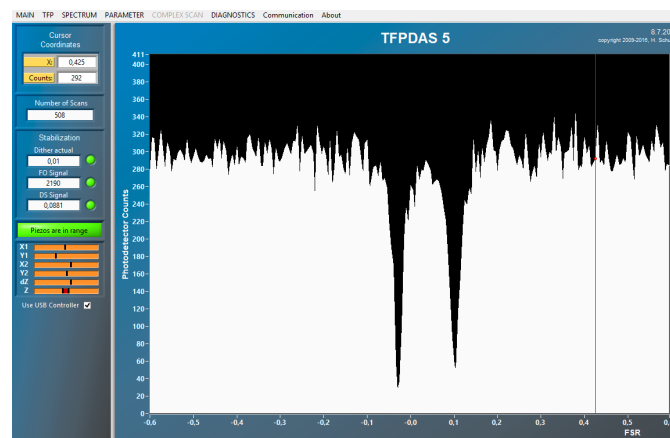

Figure 6: Exemplary signal obtained in *reflection mode*. The two dips originate from the two etalons of the *TFP-interferometer*.
- [20] As described in [19], by using the arrow keys on the keyboard, rescale the y-axis of the spectrum again to a maximum value of  $\approx 400$  counts. Subsequently, carefully unblock the laser light inciding on the reference beam side of the doubleshutter unit of the *TFP-interferometer* and adjust the overall intensity to 300 to 400 counts as shown in Fig. 6. You should see two - more or less distinct - dips in the spectrum originating from the two FPIs: